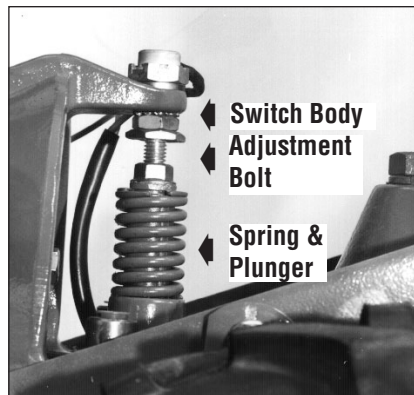

Figure 5-24: Spring and plunger assembly.
and engine mount move down to press on the reverse adjustment bolt (Figure 5-24). This action compresses the reverse spring and plunger assembly, requiring you to hold the lever up in REVERSE. When you release the lever, the spring automatically pushes the lever back into NEUTRAL position.
The spring and plunger assembly is designed to prevent the reverse disc from making contact with the transmission pulley until you shift into REVERSE. When the lever is in NEUTRAL, the switch body on the bottom of the engine mount tab should be resting squarely on top of the reverse adjustment bolt (Figure 5-24). The reverse adjustment bolt can be adjusted up or down to correct a number of reverse drive operating problems, as explained next.
5. Move the Wheels/Tines/PTO Drive Lever to NEUTRAL. The switch body on the bottom of the engine mount tab (Figure 5-24) should be resting squarely on top of the reverse adjustment bolt, and the reverse disc should be at least 3/16" away from the transmission drive pulley. If the reverse disc is any closer than this, raise the reverse adjustment bolt (turn it counterclockwise).